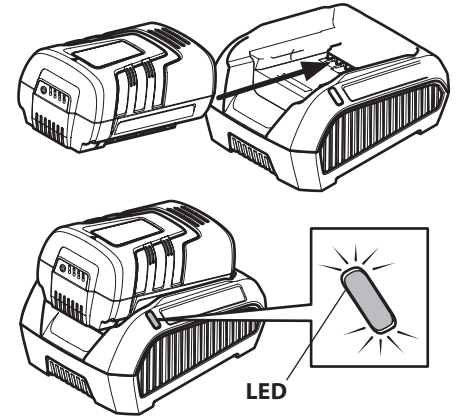

Figure 2-9
2. Insert the battery into the charging dock. The LED should illuminate. See Figure 2-9.